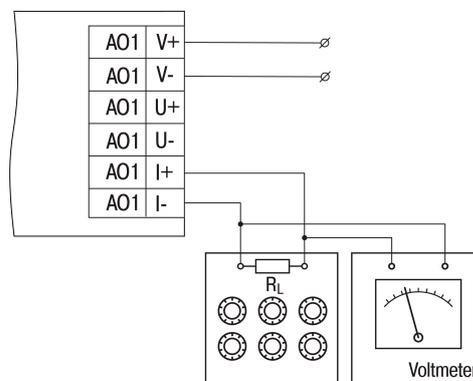

Fig. 7.3 Connection of the current reference signal source to an output ( $R_L < 300 \Omega$ )
1. Connect the reference signal source according to Fig. 7.3 or 7.4 to the output.